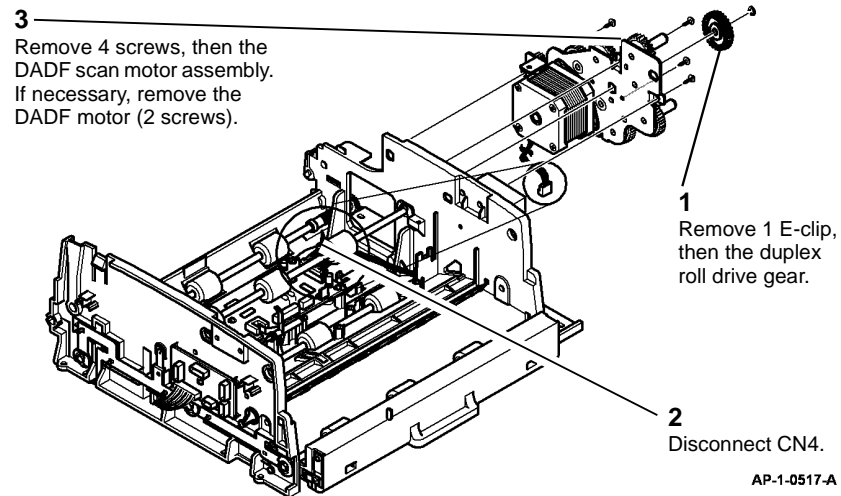

Figure 19 DADF scan motor assembly removal
20. Remove the DADF scan motor assembly, Figure 19.